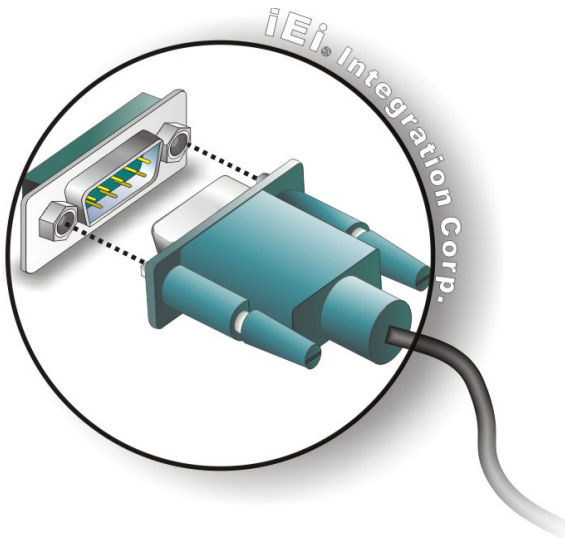

Figure 3-15: Serial Device Connector
Step 2: Insert the serial connector. Insert the DB-9 connector of a serial device into the DB-9 connector on the external peripheral interface. See **Figure 3-15**.